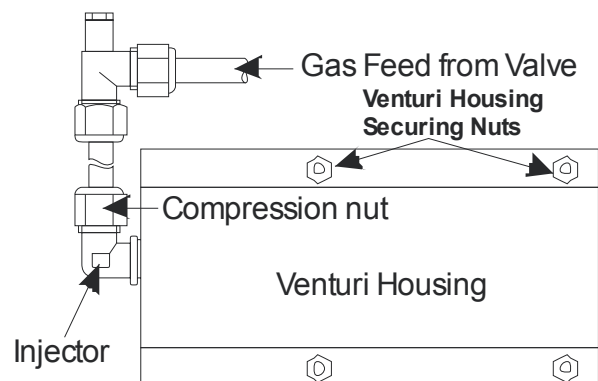

Figure 74
1. Undo the compression nut on the gas feed pipe to the injector (see **Figure 74**).